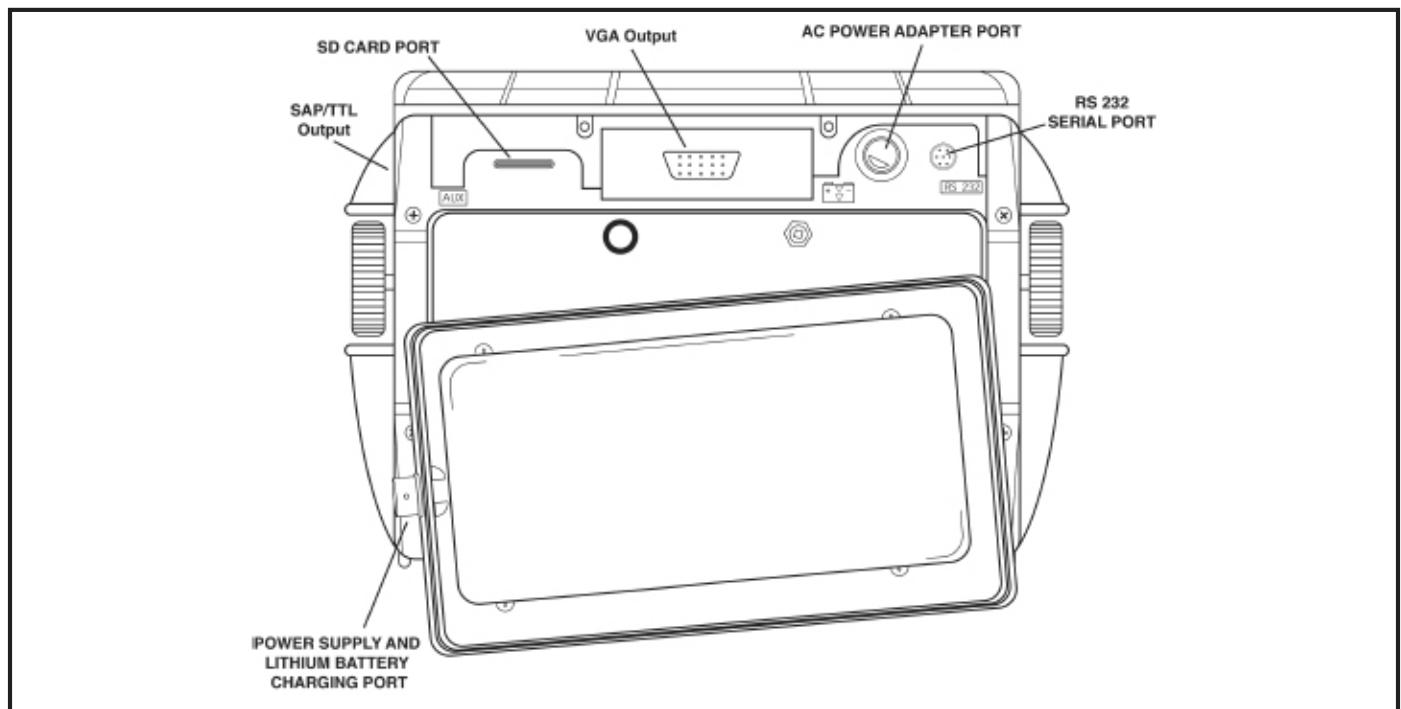

Figure 1: Installation of standard Lithium battery pack. Note the location of the Power Adapter Port and Lithium battery pack on-board charging port.
The instrument operates on a Lithium battery pack located in the rear of its housing, or by using the power adapter (Figure 1 below). To remove the battery compartment cover, first remove the four thumb-screws. The standard Lithium battery pack will provide maximum operating life between charging.
The approximate level of remaining battery life is visually displayed by the . The location of this icon is shown in Figure 1 on the previous page. When a fully charged battery pack is installed, the icon will appear as “full.” As the battery life is consumed, the icon will begin to “empty.”
**Note:** By connecting the optional Power Adapter, the instrument can be operated using an AC power source. This adapter is connected to the instrument through the AC Power Adapter Port shown in Figure 1.